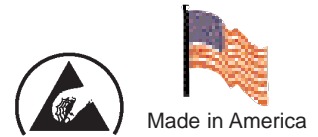

Figure 1. 94320 Dual Wire Limit Comparator
- II. Connect the plug from the Dual Wire Limit Comparator into the monitor's OPERATOR 1 remote jack (see Figure 1).